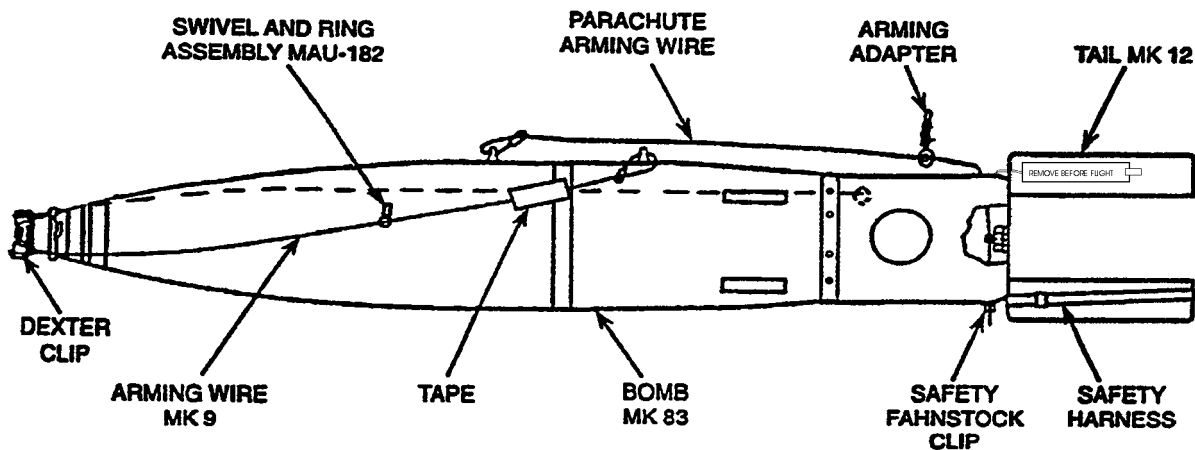

Figure 4-15F. Tail Section Mk 12 Arming Device Arming Wire Rigging for F/A-18 and P-3 Aircraft
- e. Remove a safety clip, a Nicropress sleeve, and Swivel and Ring Assembly MAU-182 from the Arming Hardware Kit Mk 165. Open the safety clip and install in vane (outer hole) of arming device (Figure 4-15F). Close the clip and slide aft.
- f. Slip ring of Swivel and Ring Assembly MAU-182 onto arming wire (Figure 4-15F). Slip a Nicropress sleeve onto the wire.
- j. Secure the wire with pressure sensitive tape, positioning the tape lengthwise along the axis of the bomb at the location shown in Figure 4-15F.